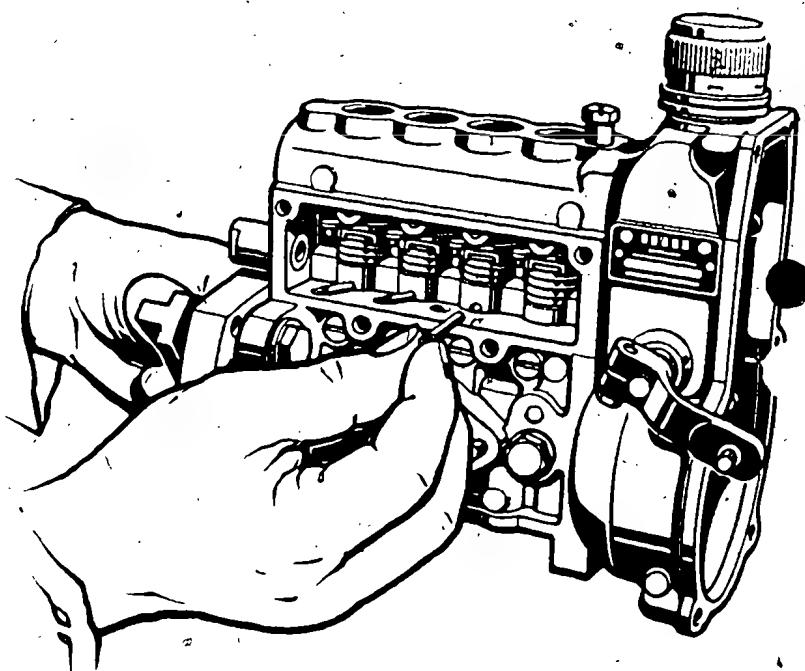

Fig. 4: Introducing the tappet holder pins
4. At control rod (25) remove locating washer (27). Loosen clamping screws (29) on the individual clamping pieces (drivers) (28) and withdraw control rod towards governor end. While pulling out control rod take off the clamping pieces in succession and place into the appropriate compartment of the depositing tray.
5. Temporarily mount drive coupling on taper of camshaft. Rotate camshaft and, in the upper dead-center position of each roller tappet (5) insert tappet holder pin EFEP 308 A in the hole provided (Fig. 4).